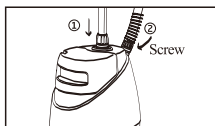

Figure 5
5. First, loosen the already pre-threaded brace so there is room for the pole to be inserted. Once the brace is loosened, insert the bottom of the telescope pole into the base as shown in Figure 5
8. Put the Hose onto the threaded Hose Base by turning the fitting on the end of the Hose clockwise (See Figure 5). Hands tighten only. Avoid over-tighten.